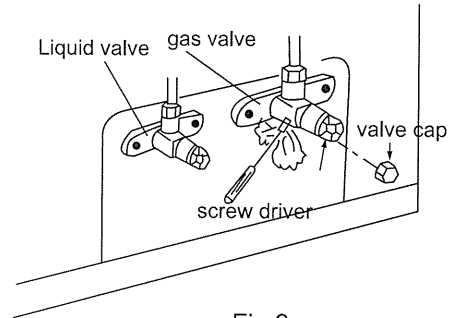

Fig.9
4. Open the liquid valve and gas valve entirely (shown in Fig.9).
- IV. Fully open valves. (Fig.9)